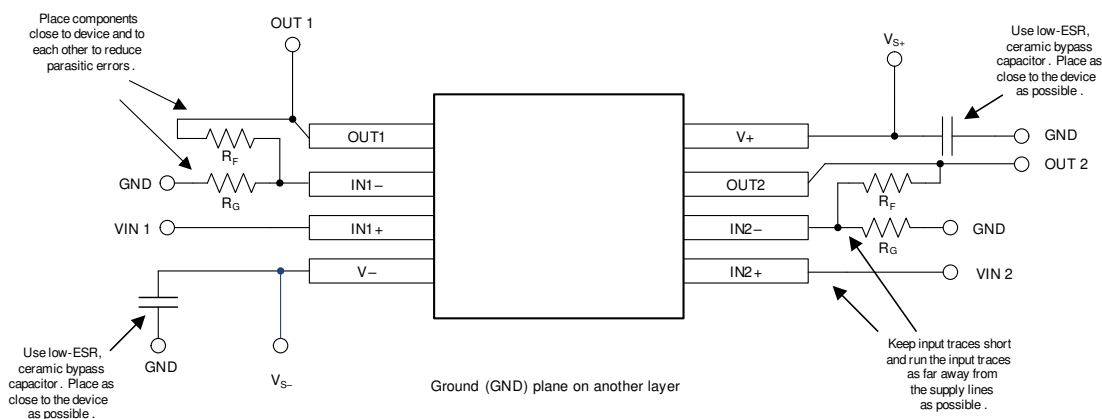

Figure 10-2. Layout Example
- Place the external components as close to the device as possible, as shown in Figure 10-2. Keeping  $R_F$  and  $R_G$  close to the inverting input minimizes parasitic capacitance.